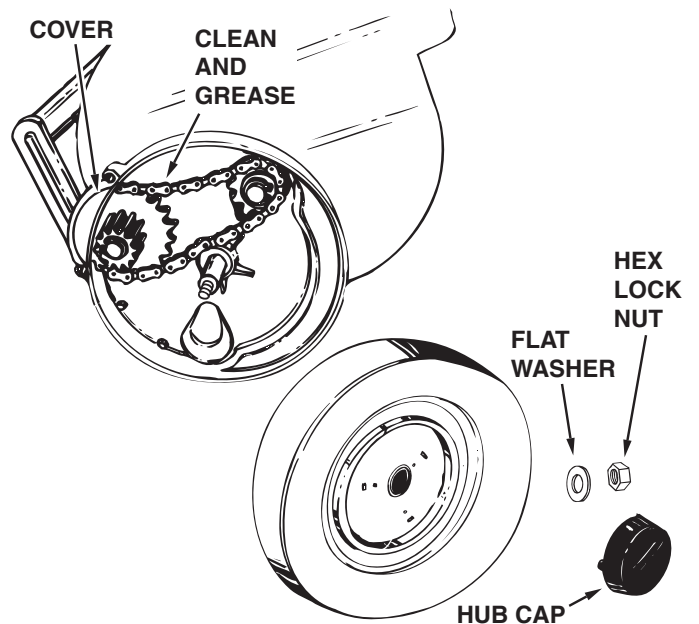

FIGURE 21
- Every two years, remove the wheels and clean the sprockets, chains and gears found inside the wheel housing. After cleaning, lubricate with an even coat of light grease. To remove the wheel, pop off the hub cap using a screwdriver and remove the lock nut and flat washer. See figure 21.